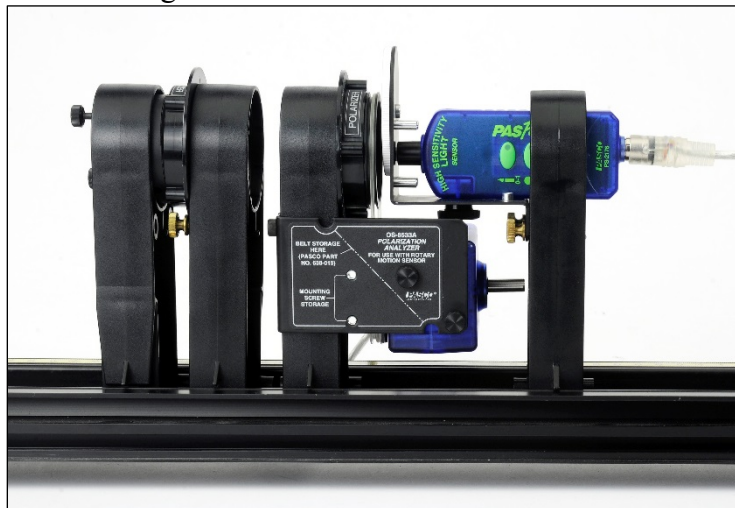

Figure 7: Setup with Components in Position for Experiment
- Push all the components on the Optics Track as close together as possible. See Figure 7. The aperture disk on the light sensor should not touch the Polarization Analyzer.